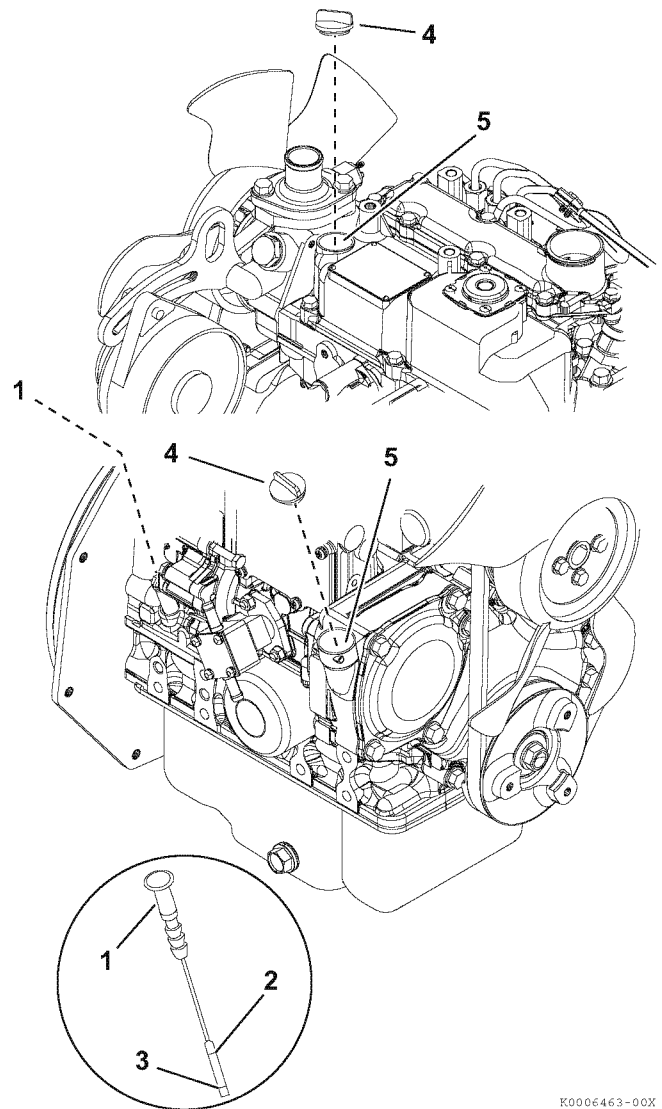

Figure 4-6
2. Remove dipstick (Figure 4-6, (1)) and wipe with clean cloth.
4. Remove dipstick. The oil level should be between upper (Figure 4-6, (2)) and lower (Figure 4-6, (3)) lines on the dipstick.
2. Remove oil cap (**Figure 4-6, (4)**).
3. Add indicated amount of engine oil at the top or side engine oil filler port (**Figure 4-6, (5)**).
6. Replace oil cap (**Figure 4-6, (4)**) and hand-tighten. Over-tightening may damage the cap.